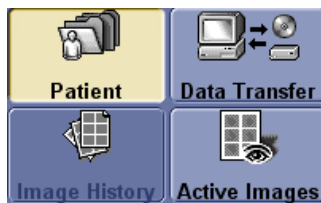

Figure 4-18 Exam Data Transfer
- 5.) Once you have selected all of the patients to export, press Transfer Button as shown in Figure 4-18 from the Patient Menu.